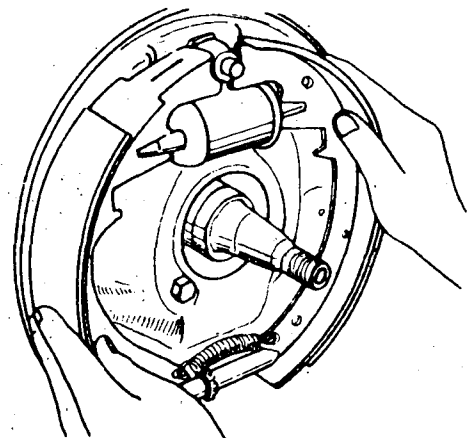

Fig. 7
- c) Replace the brake shoe unit on the plate. (fig. 7).